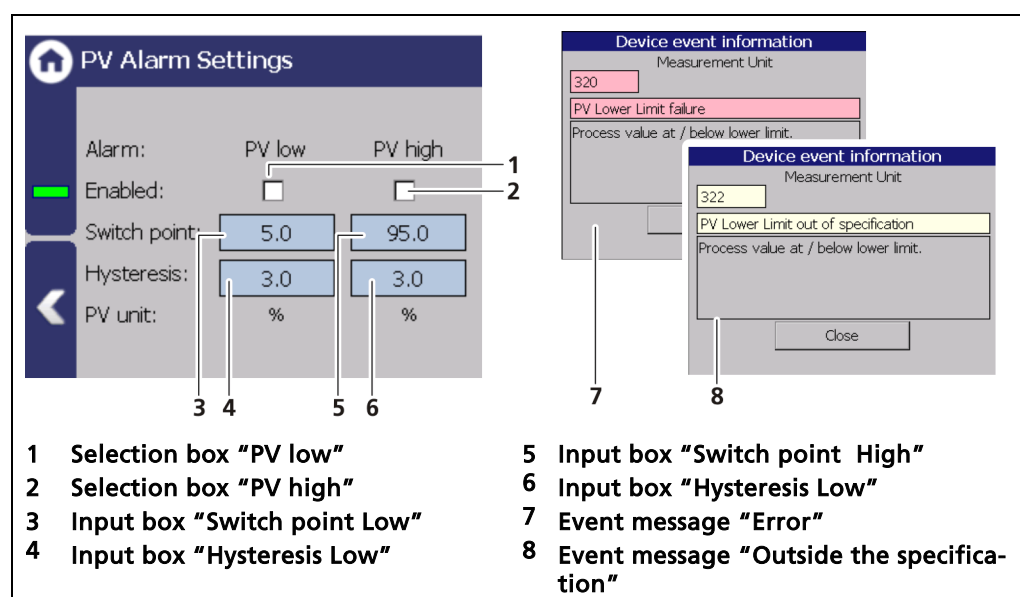

Fig. 123 Measuring set submenu "PV Alarm Settings"
If a status is selected in the menu PV Alarm Behaviour, a corresponding event message appears if the switching point is exceeded or if it falls below this point (Fig. 123 item 7, item 8).